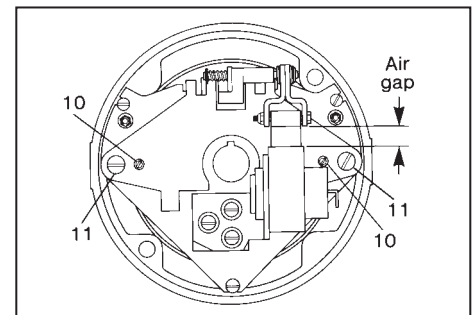

Figure 7
Note 2: Both adjustment screws (11) on Figure 7 must be turned equal amounts counterclockwise to decrease torque.
2. Manually lift solenoid plunger to maximum travel. Depress and allow solenoid plunger to snap out several times. See Figure 7. Measure solenoid air gap between mating surfaces of solenoid frame and solenoid plunger. (On vertically mounted brakes, it will be necessary to push solenoid plunger into solenoid frame to the point where spring pressure is felt, before measuring solenoid air gap.) As friction disc wear occurs the air gap will increase, as well as stopping time. If solenoid air gap exceeds 11/16", adjustment is necessary.
3. The solenoid air gap may be decreased by turning both wear adjustment screws (10) equal amounts clockwise, approximately 1/8 turn, until approximate solenoid gap is attained. Counterclockwise rotation will increase gap. See Figure 7. Repeat Step 2.